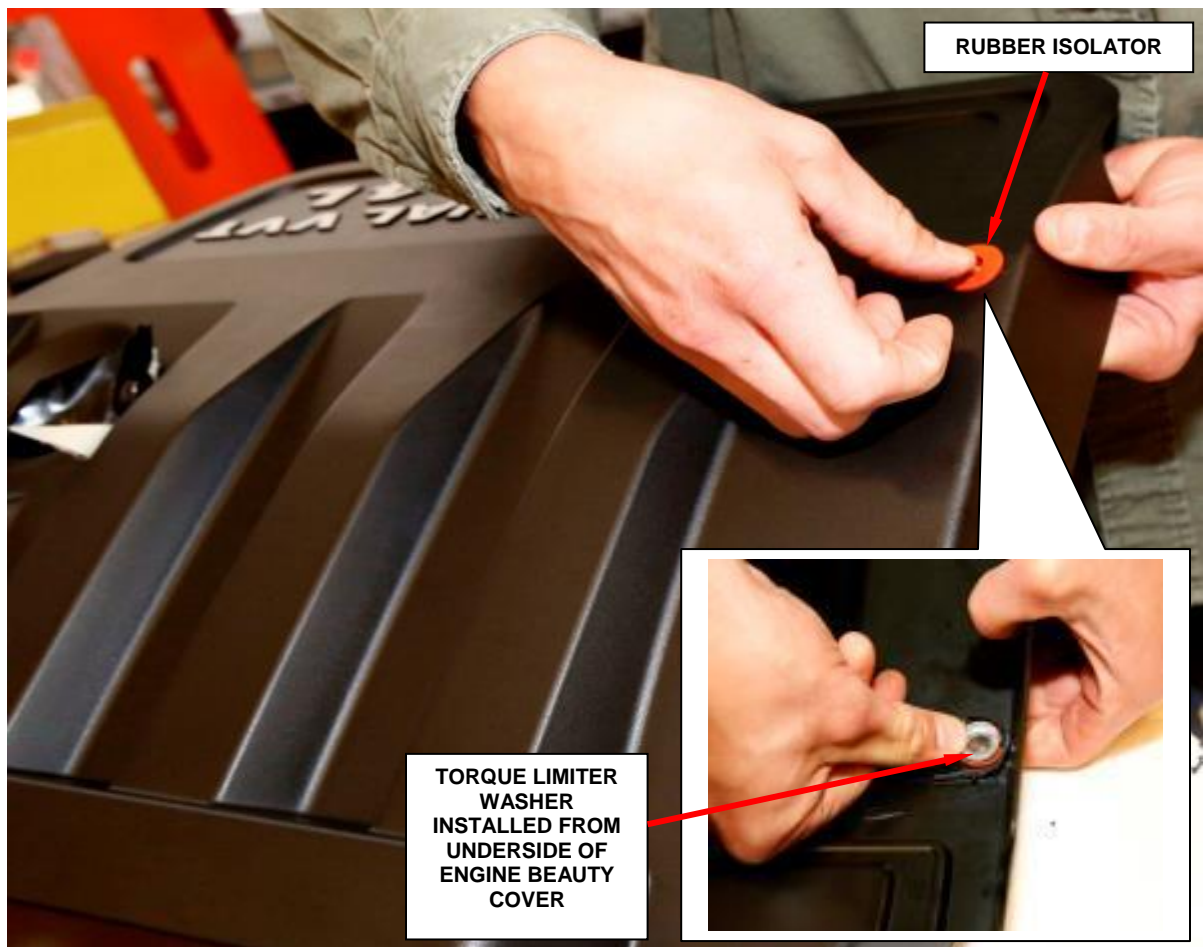

Figure 5 - Rubber Isolator
13. Install the rubber isolator provided with the kit into the newly drilled 9/16 inch (14 mm) hole in the engine beauty cover (Figure 5).
14. Install the torque limiter washer provided with the kit into the rubber isolator from the underside of the engine cover (Figure 5).
CAUTION: Be sure the torque limiter washer is installed from the underside of the engine beauty cover with the large side of the washer facing down as shown in Figure 5.